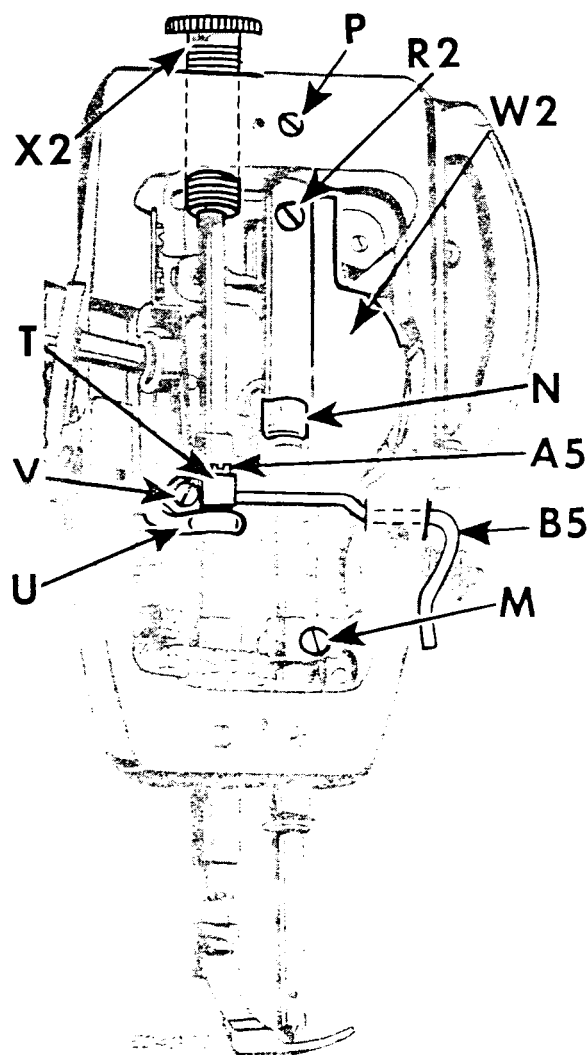
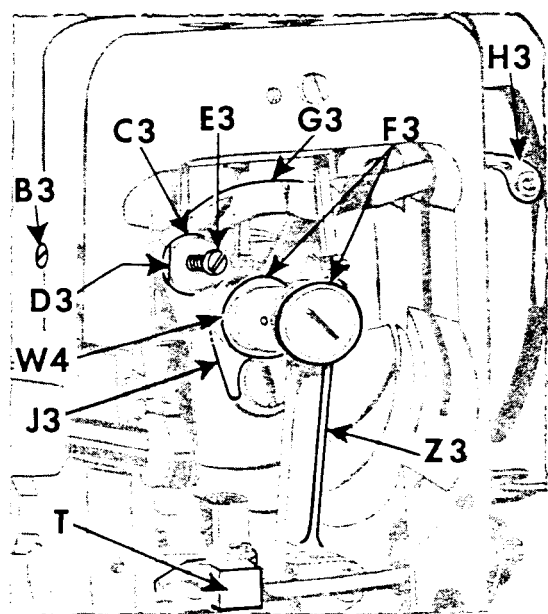

Fig. 51. Removing and Replacing Needle Bar and Presser Bar
Fig. 52. Removing Needle Thread Take-up
(See Fig. 51)
4. Slide presser bar up through lifting bracket **U**, Fig. 51 and bushing and out of machine.
1. Slip presser bar down through lifting bracket **U**, Fig. 51 and lower presser bar bushing.
2. Replace guide bracket **T** as shown in Fig. 51.
2. Remove needle bar, upper needle bar bushing, presser bar pressure regulating thumb screw **X2**, Fig. 51, page 33, and guide bracket **T**, Fig. 52 as instructed on page 35.
5. Loosen small set screw **B3**, Fig. 52 in the rear of the arm of the machine.
6. Insert a face plate screw **E3**, Fig. 52 in the tapped hole in center of stud **C3**, Fig. 52 and, while holding back the needle thread take-up link inside the head at **G3**, Fig. 52, pull upon the screw **E3** until the stud **C3** is removed. Remove face plate screw from stud.
NOTE: Extractor Tool Serial 222226 may be used instead of face plate screw at **E3**, Fig. 52, to pull hinge stud **C3**.
7. Back the end of the take-up **H3**, Fig. 52 toward the inside of the machine, turning the machine pulley as required until the take-up is free of the slot provided for it.
1. Make sure that the wearing plate **J3** is in place and **undamaged** on the face of the needle bar crank, as shown in **Fig. 52**.
2. Place the needle thread take-up link **G3** and take-up **H3** in the head of the machine so that the stud **W4**, **Fig. 52** in the center of the linkage slips into the hole provided for it in the needle bar crank, as shown in **Fig. 52**.
4. Insert stud **C3** through needle thread take-up lever link **G3** and into its hole into the machine casting so that the **flat on the stud faces the rear** of the machine. The mark **D3** on the stud indicates the position of this flat. **Fig. 52** shows the stud with the mark **D3** in the correct position. **DO NOT INSERT THE STUD TO ITS FULL DEPTH AT THIS TIME.** There should be about **.010** inch to **.015** inch side play of the take-up lever link **G3** on the stud, until final adjustment is made in **Step 15**.
17. Replace guide bracket **T** in head of machine, as shown in **Fig. 52**.
18. Replace presser bar pressure regulating thumb screw **X2**, **Fig. 51**, page 33.